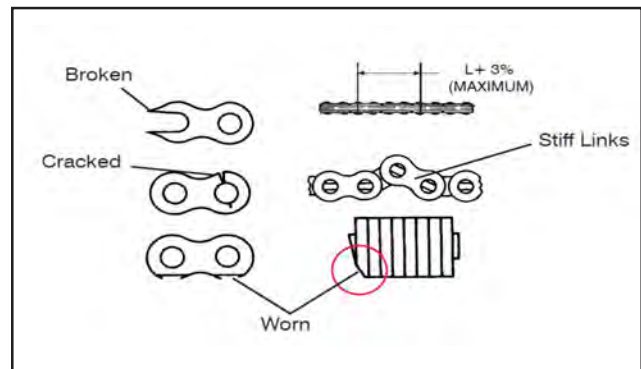

Figure 5-44. Mast Chain Condition Inspection
3. Inspect each chain for broken, cracked, stiff or worn links. See Figure 5-44. Replace the chain if required.